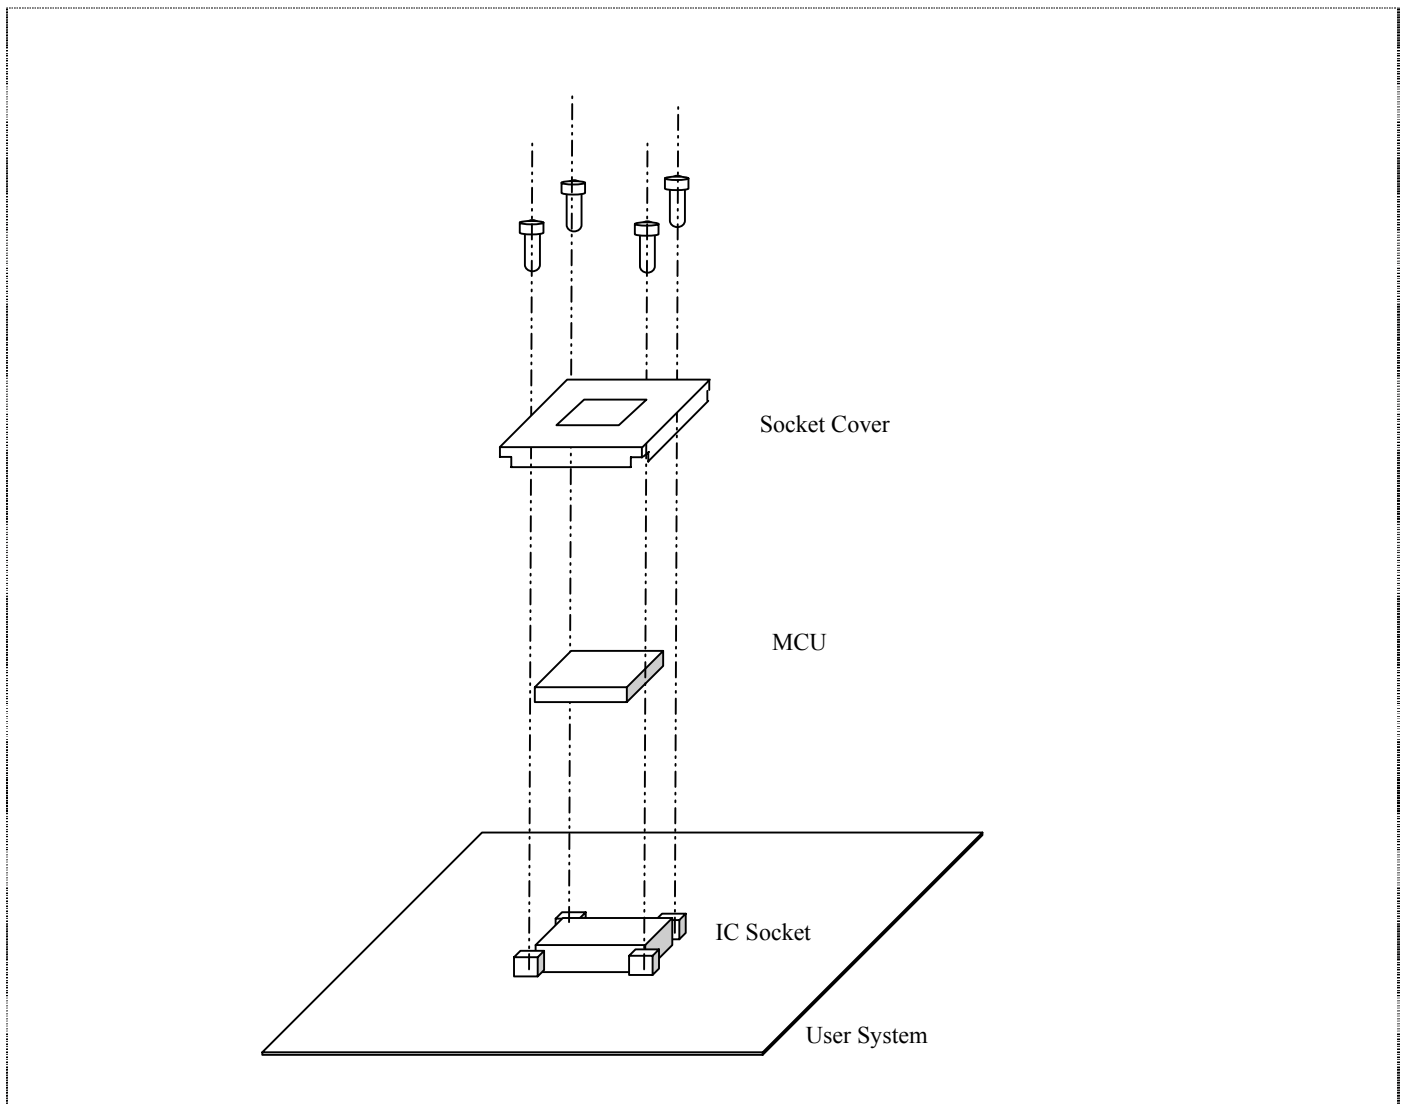

Figure 4.1 Installing MCU to User System
- Check the location of pin 1 before inserting the MCU into the IC socket on the user system as shown in figure 4.1.